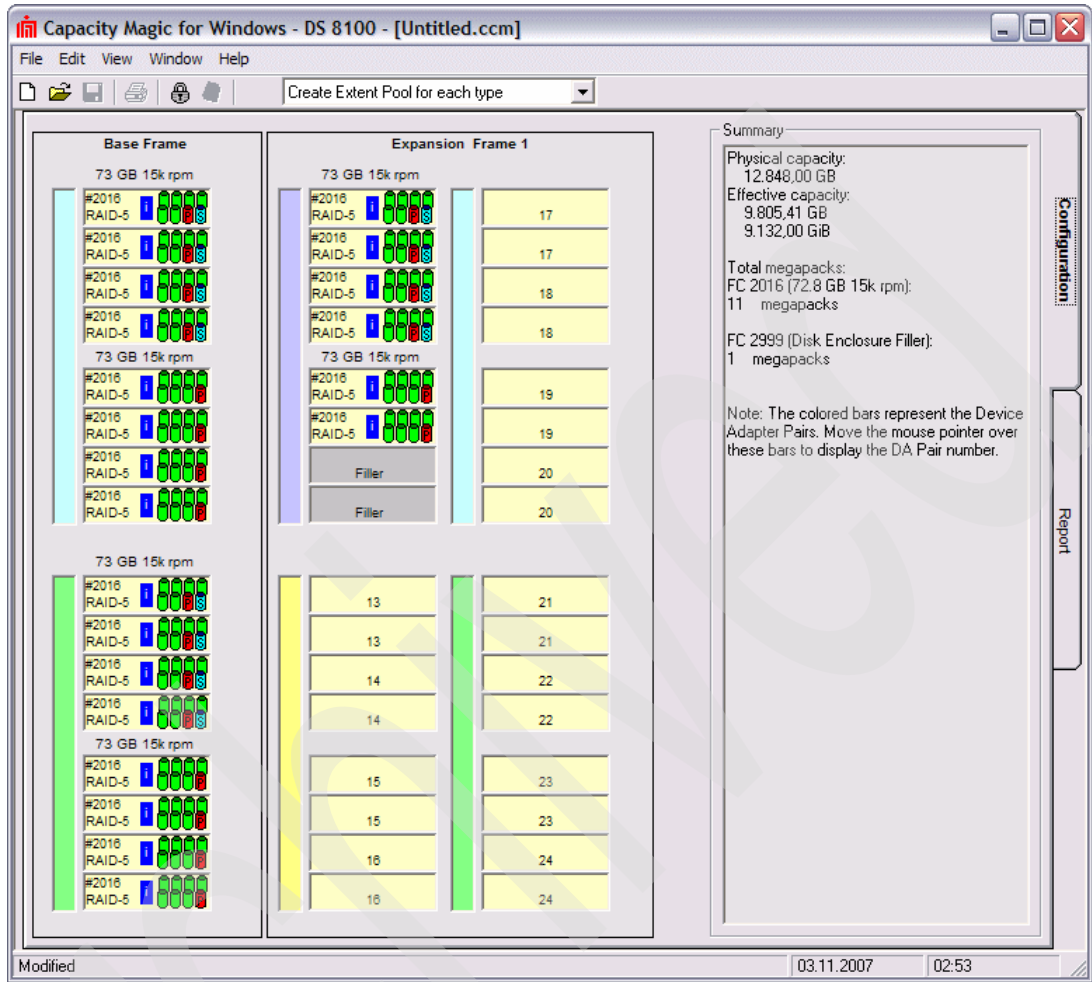

Figure 3-18 Graphical output of Capacity Magic
- The graphical output displays, which contains the needed number of arrays, spares, and parity disks (see Figure 3-18). Click **Report** table on the right.